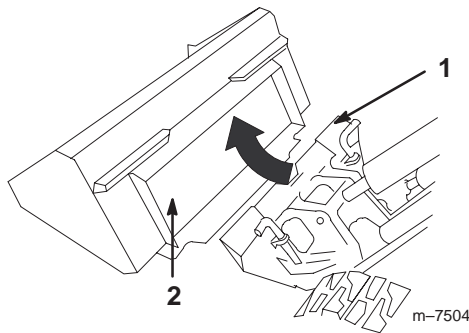

Figure 23
4. Position mount plate into the upper lip of the attachment receiver plate (Fig. 23).